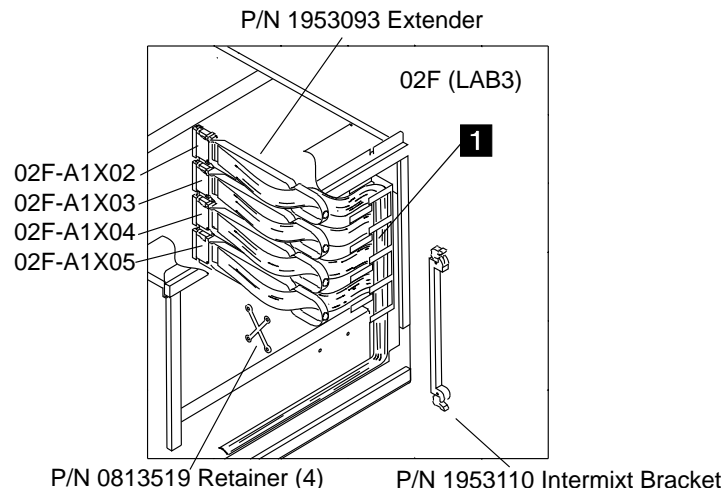

Figure 5-8. Line Adapter IOC Bus Cable Routing in the 3746-A11
- Step 6. \_\_\_\_ Plug cables **1** into their addresses. Secure the cable extenders using a intermixt bracket (P/N 1953110), and secure them in the raceway with cross retainers (P/N 0813519). (See Figure 5-8 below.)